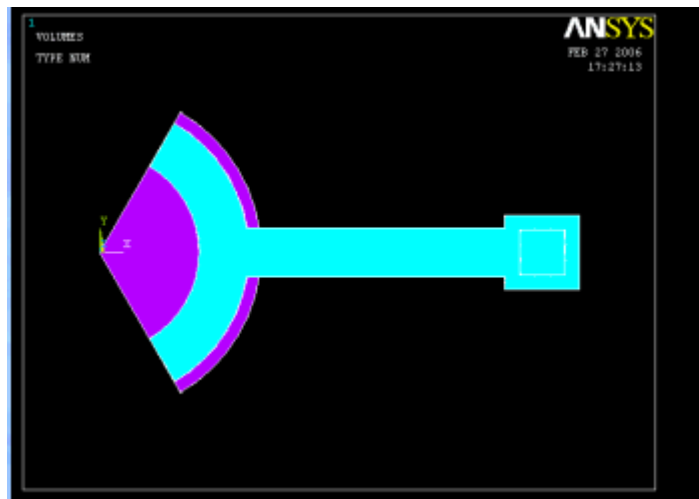

Figure 108: Loading Macro in ANSYS.
- ☑ Close ANSYS without saving once the macro is complete (Figure 108).